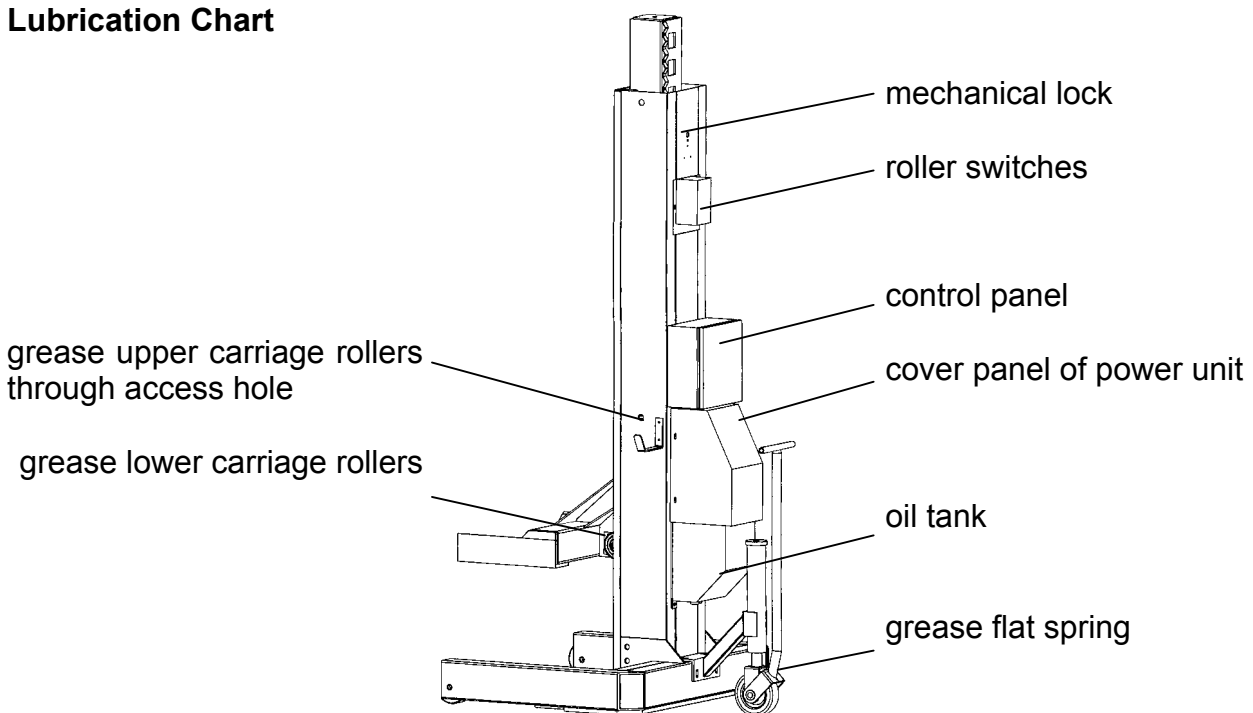

fig.5
- Grease carriage rollers and flat spring of locking brake on wheel jack, with multi-purpose grease, type G2 or approved equal -> see lubrication chart **fig. 5**.